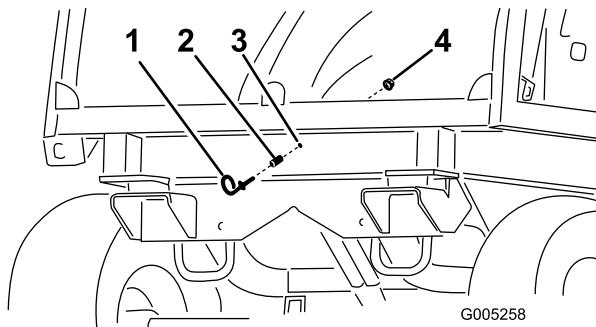

Figure 73
2. From the front of the cab, install the eyelet and spacer to the cab wall with a flange nut (Figure 73).